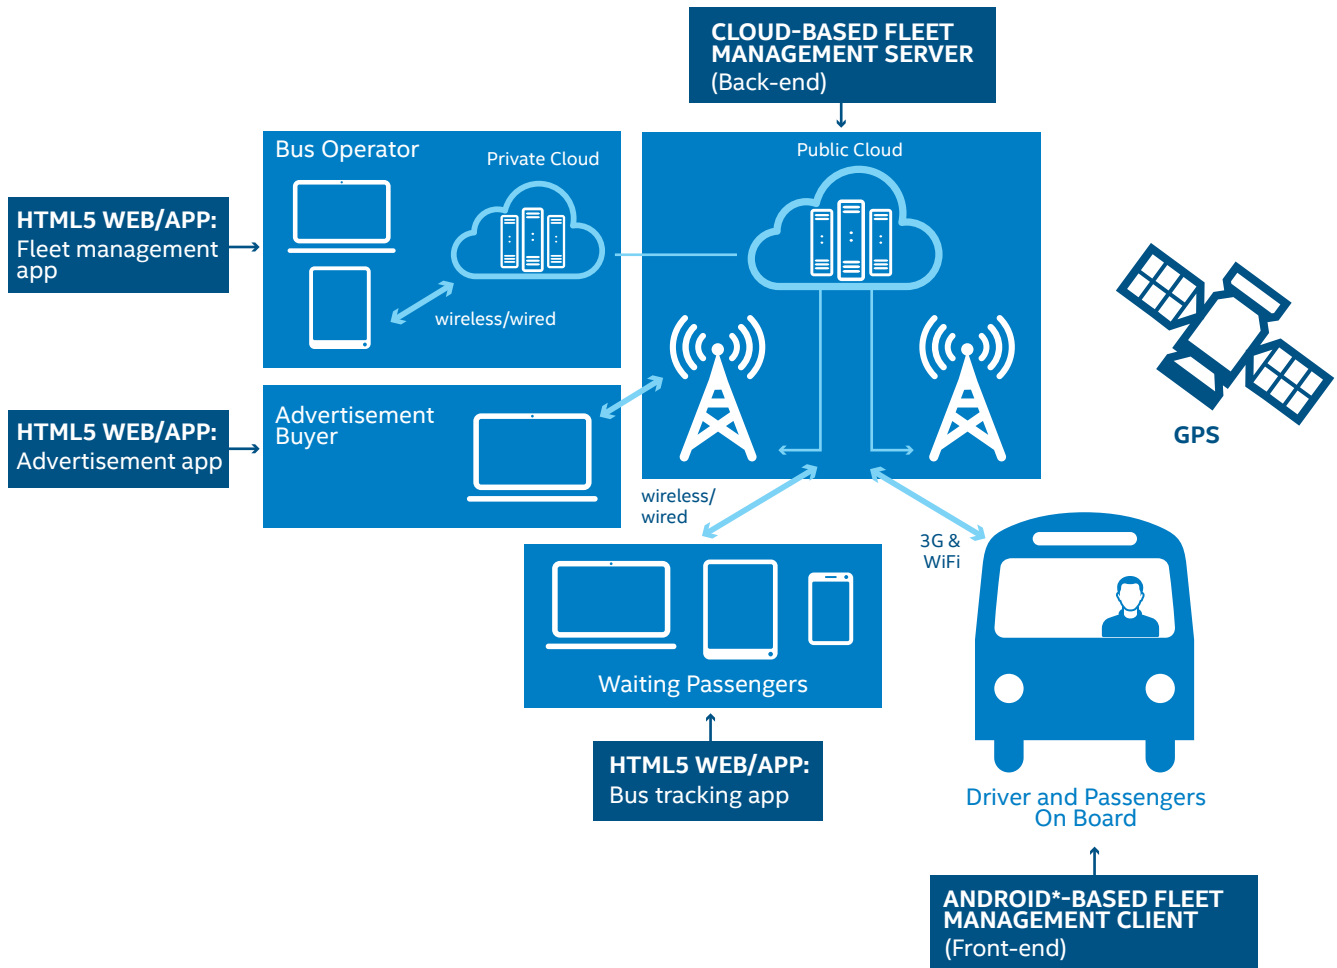

Figure 1. Fleet Management System Architecture.
- Figure 1.** Fleet Management System Architechure3
Helping systems integrators incorporate key technologies for public transportation, Intel developed a fleet management system proof of concept (PoC). It can be customized to easily fit into a wide variety of commercial vehicles, including taxis, school buses, and logistic freight vehicles. The architecture, shown in Figure 1, features an in-vehicle system based on the Intel® Atom™ processor E3827 and supports data management, telematics, smart surveillance, location-based advertisement, and mobile applications, which are described in the following.